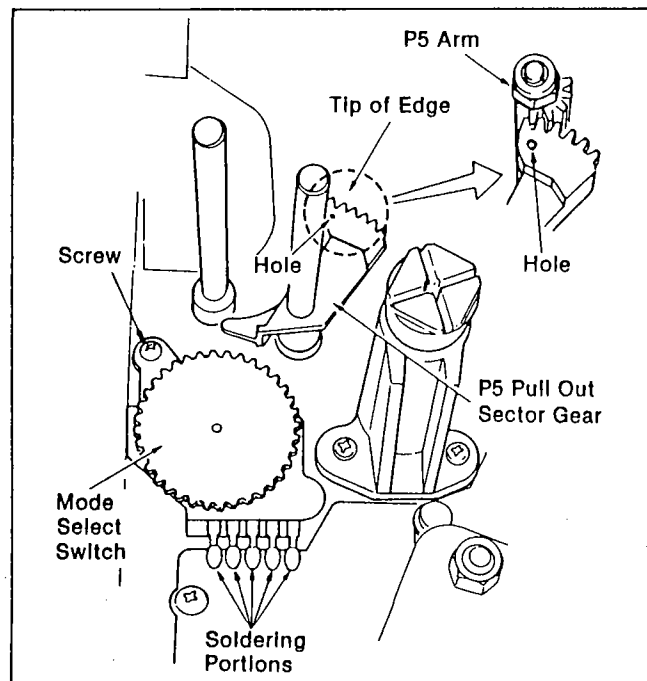

Figure M51
2. Install the P5 Pull Out Sector Gear so that the hole of P5 Pull Out Sector Gear aligns with the tip of edge at P5 gear as shown in Figure M51.